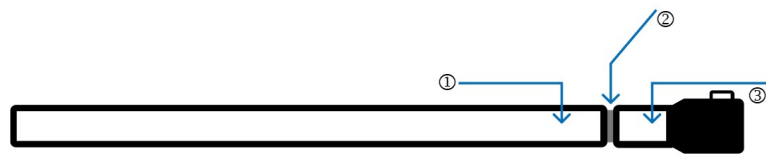

Figure 5: The calibration sample with the transducer
- Attach the calibration sample 1 and the ultrasonic transducer 3 (see Figure 5). Use ultrasonic couplant 2 between the calibration sample and the transducer.